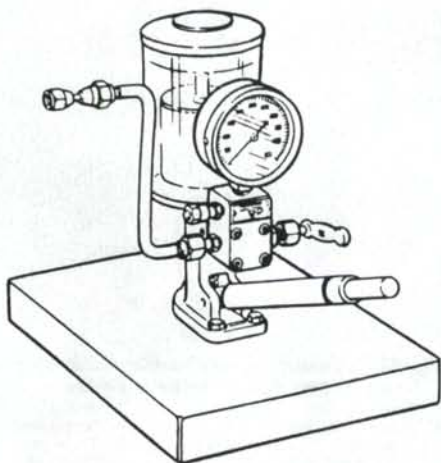

Fig. 74—CAS-10091 diesel fuel injection nozzle tester.
80. TESTING. A complete job of testing and adjusting an injector nozzle requires use of special test equipment such as test stand, special tool No. CAS-10091. See Fig. 74. Only clean, approved testing oil should be used in